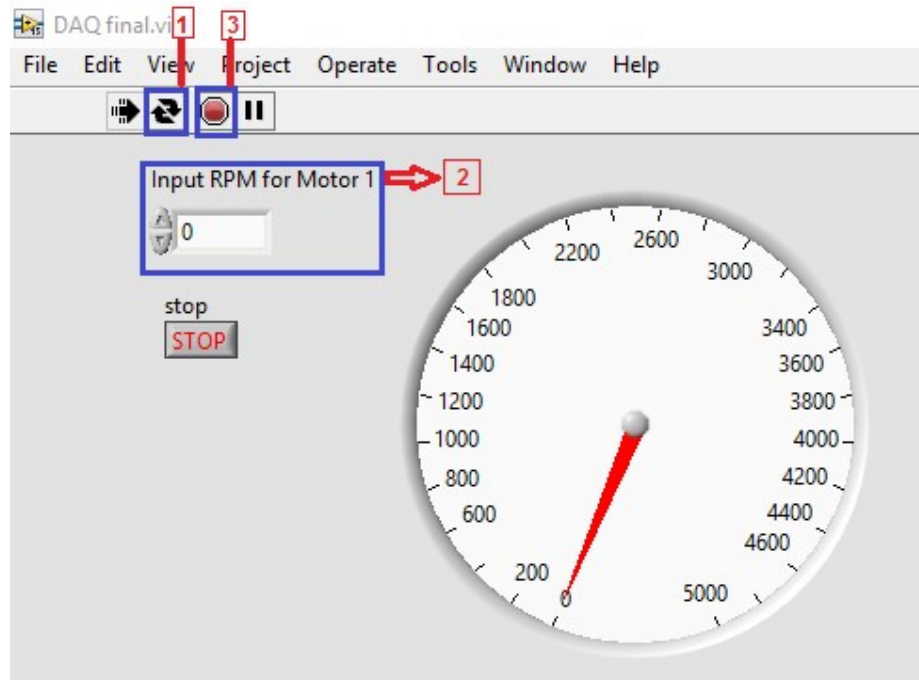

Figure 12 LabVIEW interface
3. Turn on the switch as shown in Fig 12. '1' represents ON and '0' represents OFF. Both the displays on the system should now read "0.0" with a red LED turned on at Current knob.
- Turn off the DC Power supply system directly using the main switch as shown in Fig 12.